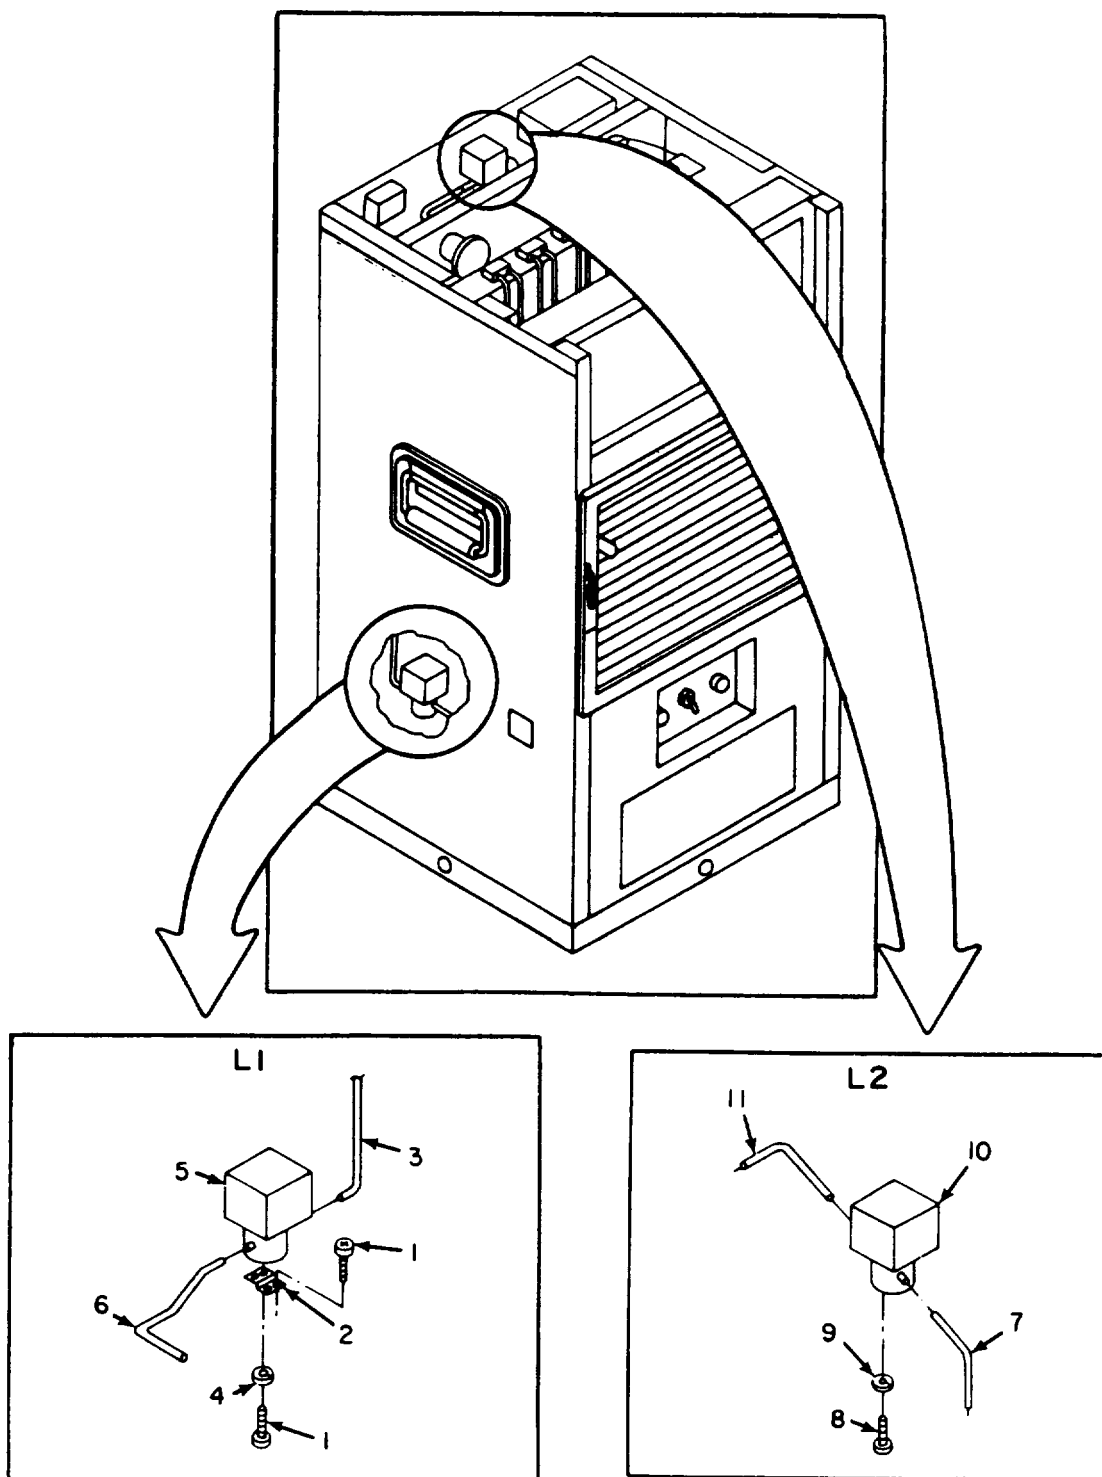

Figure 5-19. Solenoid Valves.
- a. REMOVAL. See Figure 5-19.